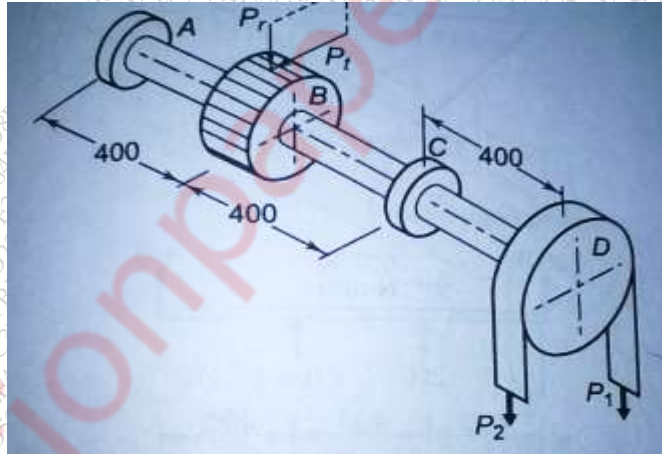

Fig.1
- (b) A transmission shaft supporting a spur gear B and pulley D is shown in Figure 1. The shaft is mounted on two bearings A and C. The diameter of pulley and the pitch circle diameter of the gear are 400 mm and 300 mm respectively. The pulley transmits 15 kW power at 550 rpm to the gear.  $P_1$  and  $P_2$  are belt tensions in tight and loose sides, while  $P_t$  and  $P_r$  are tangential and radial components of gear tooth force. 16